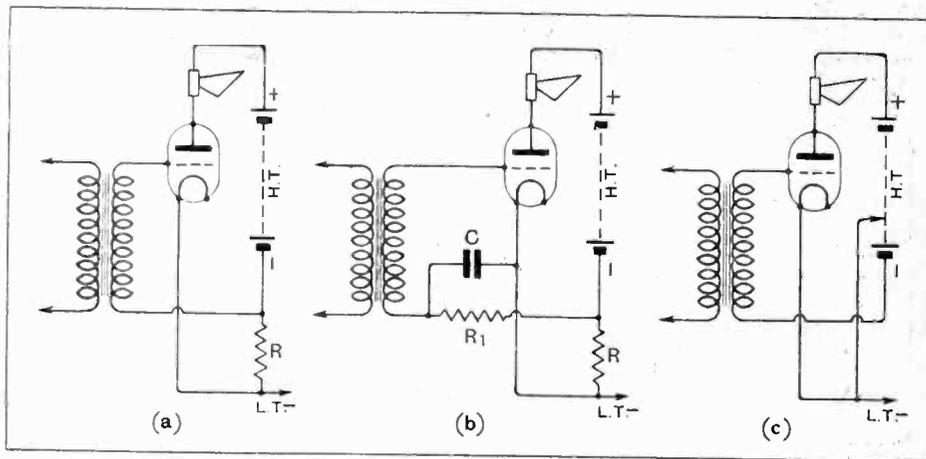

Fig. 2.—Illustrating methods of using a high-tension battery as a source of grid bias voltage.
return lead is joined to H.T. negative. This method, in its simplest form, is illustrated in Fig. 2 (a), where the bias resistance is marked R.
Due to the fact that this resistance is common to the anode circuits of all valves in the receiver, it is probable that it will cause harmful interstage couplings, and so this simple circuit is hardly practicable. As a rule it will be necessary to add a decoupling resistance ( $R_1$ ) of about 100,000 ohms, and a by-pass condenser (C) of about 2 mfd., as shown in Fig. 2 (b).
The need for using a bias resistance and decoupling devices is entirely obviated by the still simpler arrangement shown in Fig. 2 (c). The required number of cells at the negative end of the battery can be
A suitable value for the bias resistance shown in Fig. 2 (a and b) can easily be determined in the manner often explained in these pages.